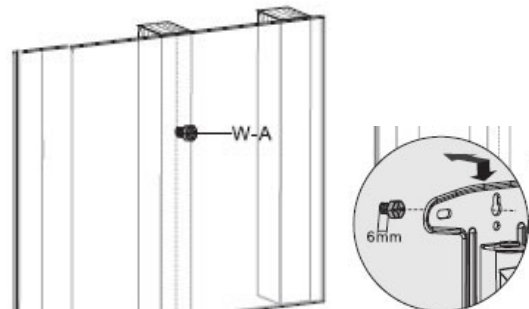

Figure 2A-3
4. Place the wall plate to the wall, insert the top mounting hole onto the mounted screw, see **Figure 2A-4**.